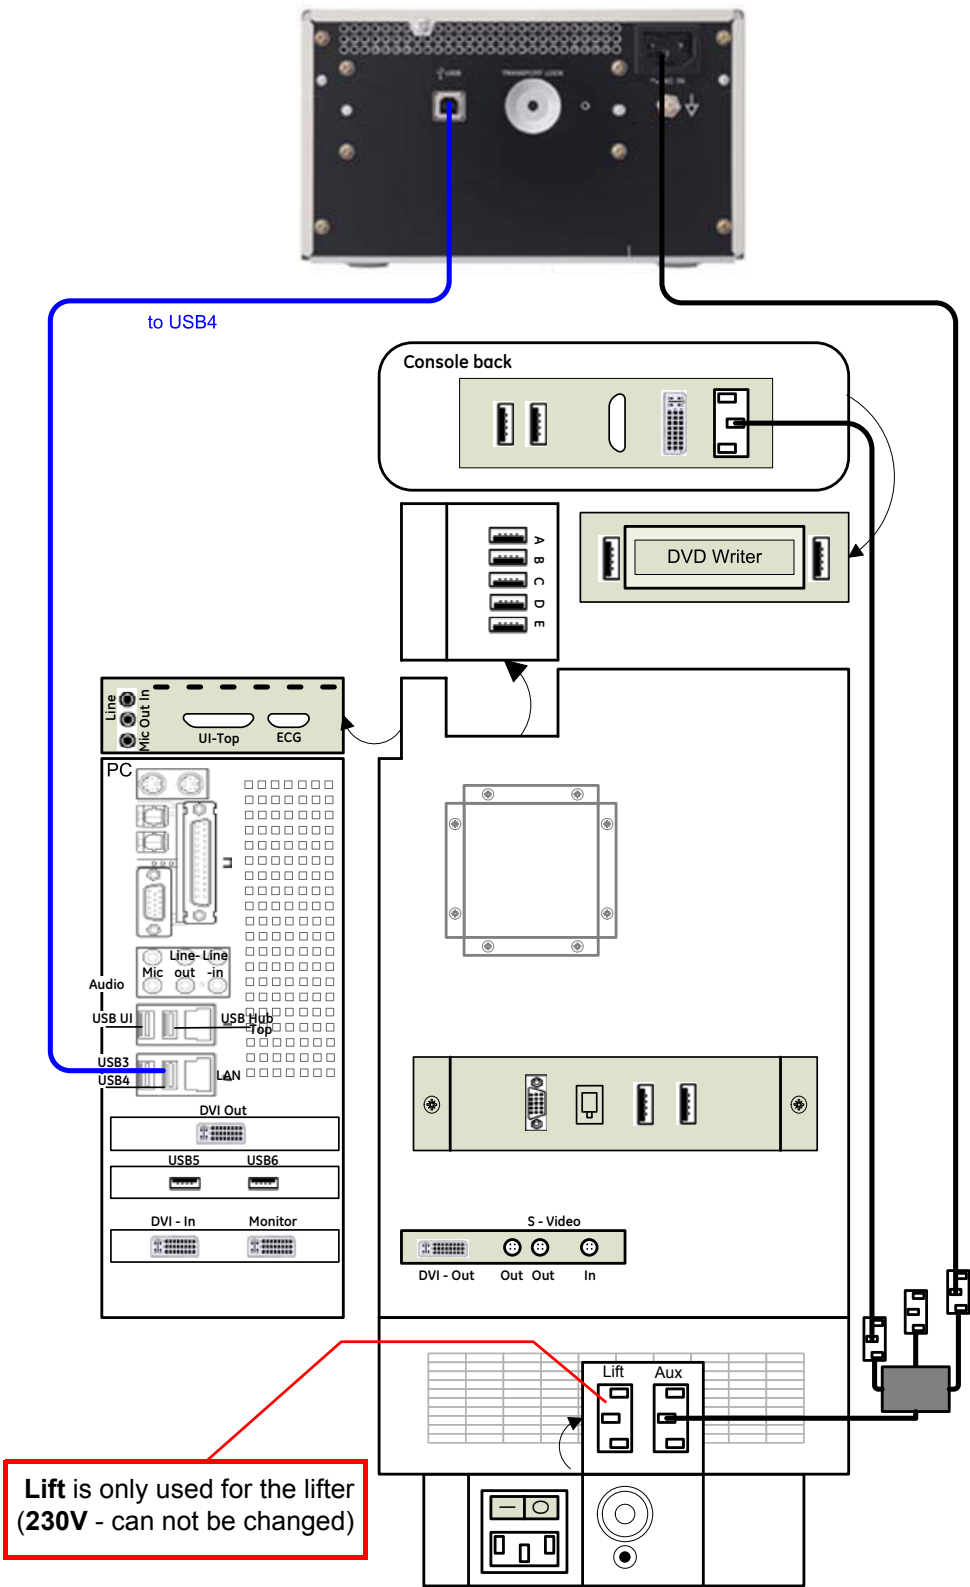

Figure 3-12 Color Printer connection (BT06: TYAN PC-Motherboard installed)
- if “**Tyan**” PC-Motherboard is installed, see: Figure 3-12 on page 3-18.